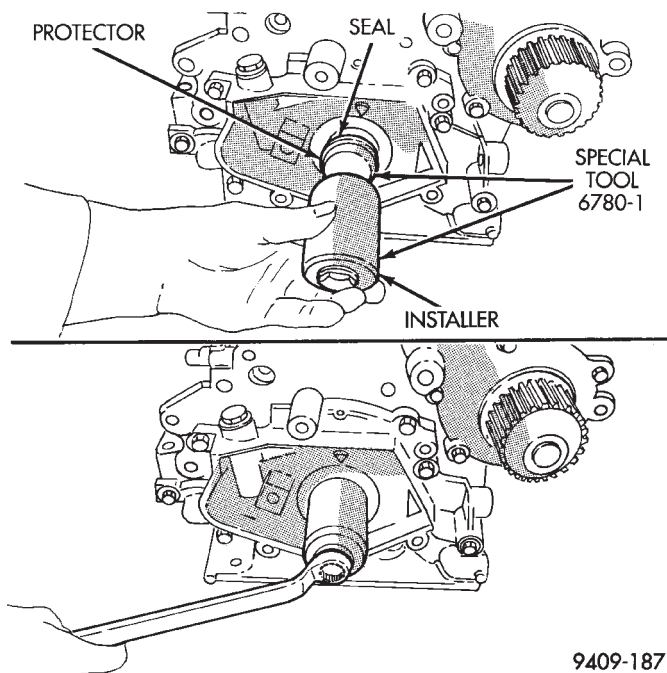

Fig. 94 Front Crankshaft Oil Seal—Installation
(1) Install new seal by using Tool 6780-1 (Fig. 94).
(2) Place seal into opening with seal spring towards the inside of engine. Install seal until flush with cover.